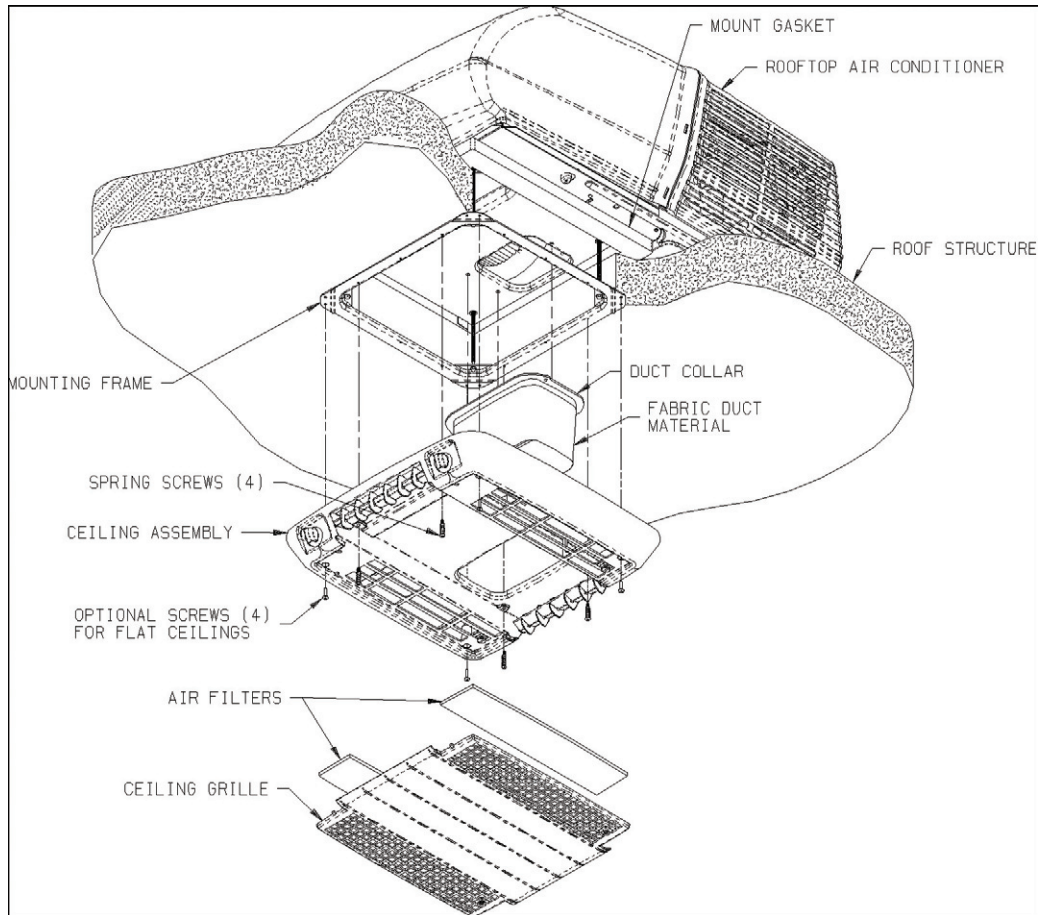

FIGURE 7
- C. Fasten the duct collar to the basepan of the air conditioner with three (3) screws (See Figure 7).
- H. Raise the ceiling assembly and secure to the mounting frame with 4 provided shoulder screw/spring assemblies. The front two screws should pass through the clearance holes in the metal control box shield (See Figure 7).